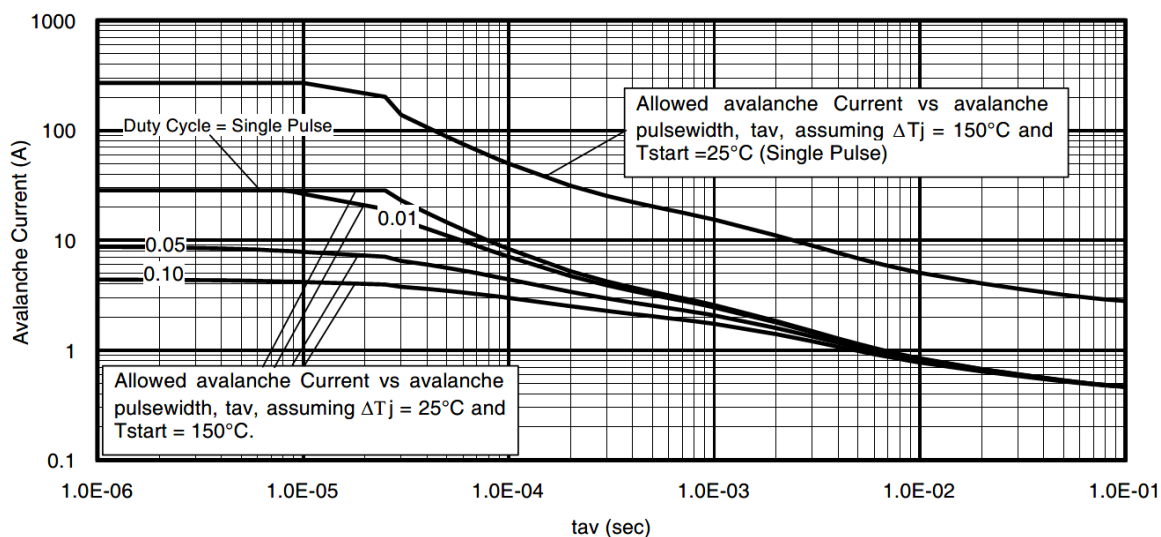

Fig 14. Typical Avalanche Current vs. Pulsewidth
Notes on Repetitive Avalanche Curves , Figures 14, 15:
7. $\Delta T =$ Allowable rise in junction temperature, not to exceed Tjmax (assumed as 25°C in Figure 14, 15).